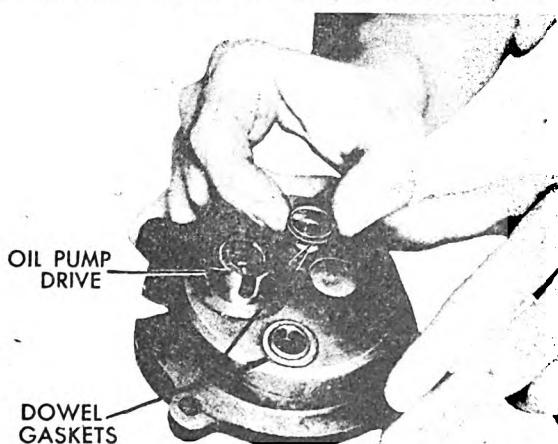

Fig. 294. Installing Dowel Gaskets
(8) When installing the pump on the engine, be sure to use new dowel gaskets as shown in Figure 294.